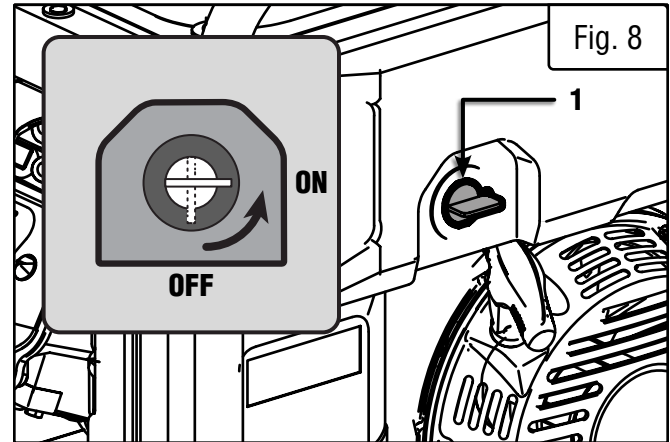

Fig. 8
1. Turn the fuel valve (Fig. 8 - 1) to the **ON** position.